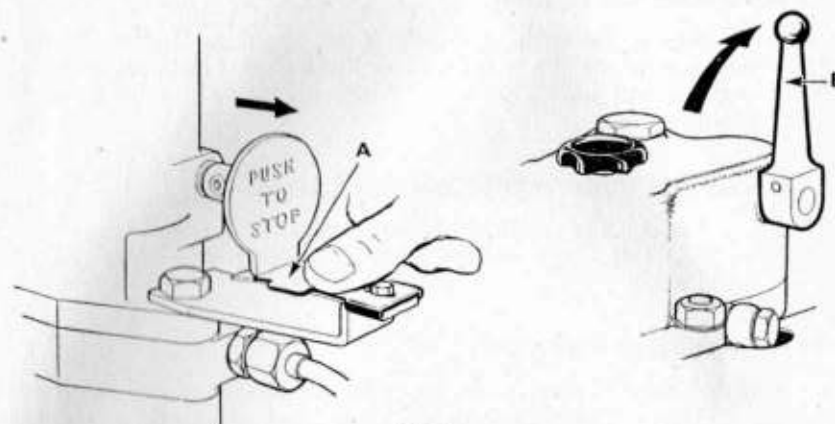

Fig. 2
- (iii) Unscrew the Fuel Delivery Pipe Connection from the Injector, crank the Engine over until bubble free fuel leaks from the Pipe (C). Replace the Pipe Connection.
14. To Start the Engine (Fig. 2).
- (a) Depress the Overload Leaf Spring (A) and allow the Fuel Pump Rack to move into its fully open position.
- (b) Lift the Decompressor Lever (B). Fit the Starting Handle and turn the engine over slowly thus "priming" it. This is unnecessary with a warm engine.